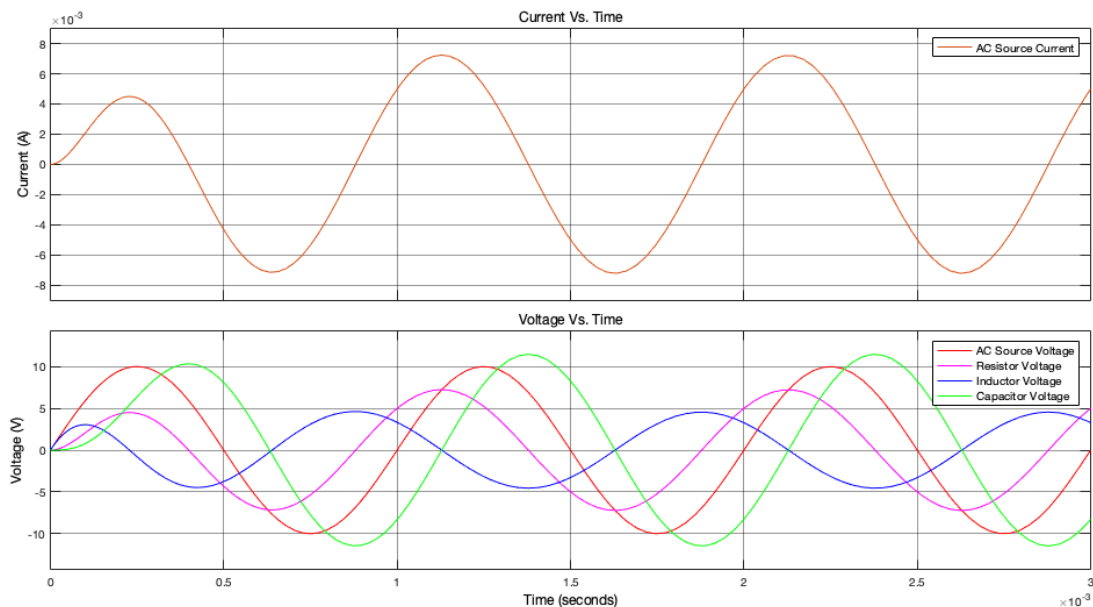

Figure 11: Complete Plot for RLC Circuit 1
10. You also will need to select the individual displays when changing the color layout under the “Style” tab. Once you have completed formatting the plots. You should have a plot similar to the one shown in figure 11.